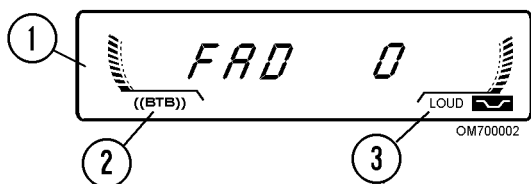

FIGURE 70-3. AUDIO ADJUSTMENTS
Figure 70-3 shows a sample of the display window when audio controls has been selected:
1. *To adjust loudness* - press AUDIO (11) to select LOUD (press AUDIO until LOUD appears in display).
- b. The LOUD indicator (3, Figure 70-3) will appear in the display window.
- d. Press the arrow buttons (16) to select desired level of loudness. Each press of the left or right arrow selects LOW (low level) or HI (high level).